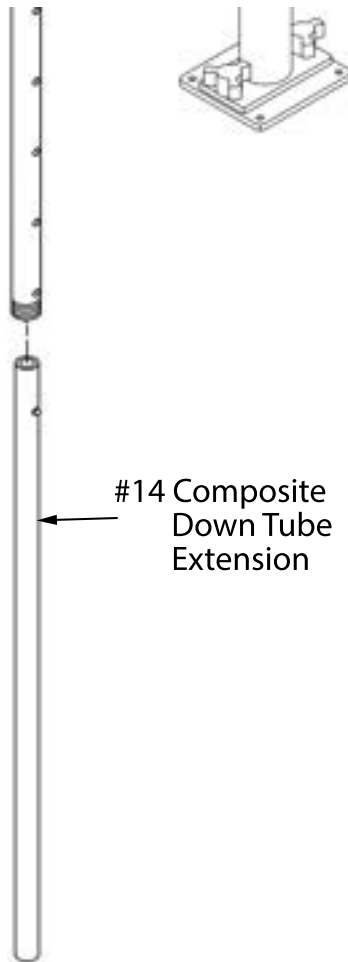

FIGURE 5.
STEP 5. Slide #14 Composite Down Tube Extension into the Aluminum Down Tube as seen in Figure 5.